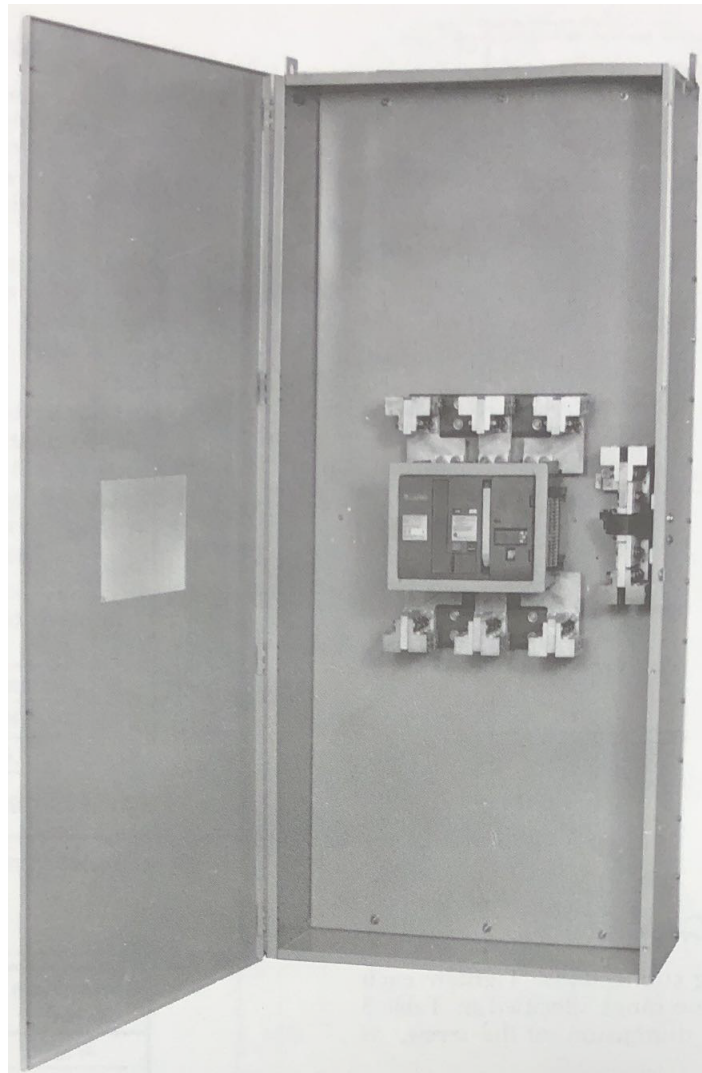

Figure 5. Enclosure interior, showing installation of circuit breaker and field-installed neutral.
3. If equipment ground-fault protection is provided and a neutral current transformer (CT) is provided, connect the neutral CT line side to the line side of the neutral, as illustrated in Figure 5 and on the rating label on the enclosure door.